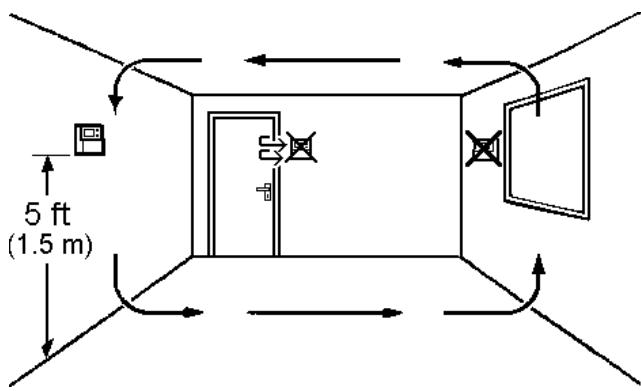

Fig. 2 TP75-RF or TS2 location
- TP75-RF** Select the desired fixing position. (This should adhere to normal room thermostat practice, see Fig. 2).